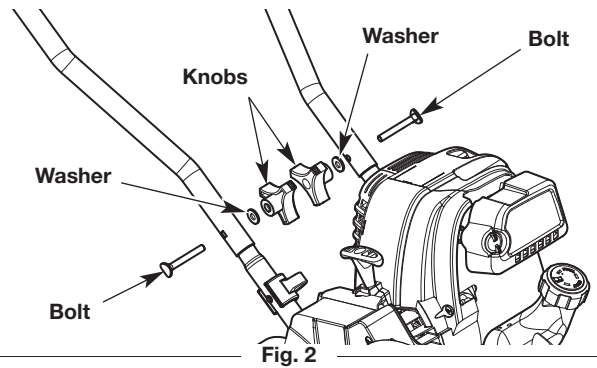

Fig. 2
3. Insert a bolt into each of the aligned holes (Fig. 2).
4. Install a washer onto each bolt (Fig. 2).
5. Install a knob onto each bolt (Fig. 2). Tighten the knobs securely.